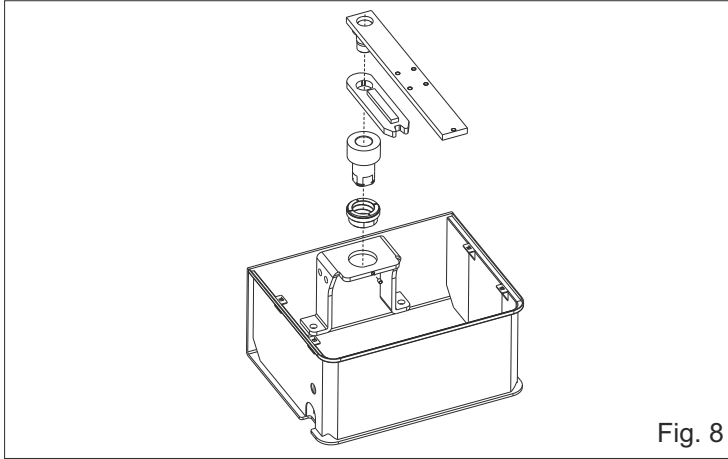

Fig. 8
- 2.4.** introduce the buckle of creeping in the box and fix it with the special screws (Fig. 8)
- 2.5.** Insert the units as in Fig. 8